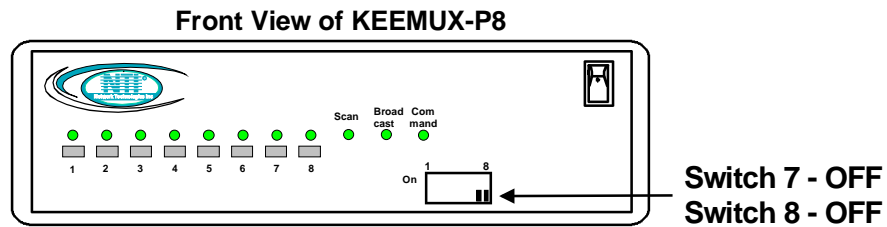

Figure 1- Keyboard dip-switch configuration
***FYI:** Should switch 7 or 8 get changed to the “ON” position, it will be necessary to power-down the entire system (including CPUs), change the dip-switches back to the “OFF” position, and then power the system back up. If it is necessary to replace one PS/2 keyboard with another one, the keyboard can be hot-swapped without powering-down. Refer to Fig. 1 for instructions on proper keyboard dip-switch configuration.*